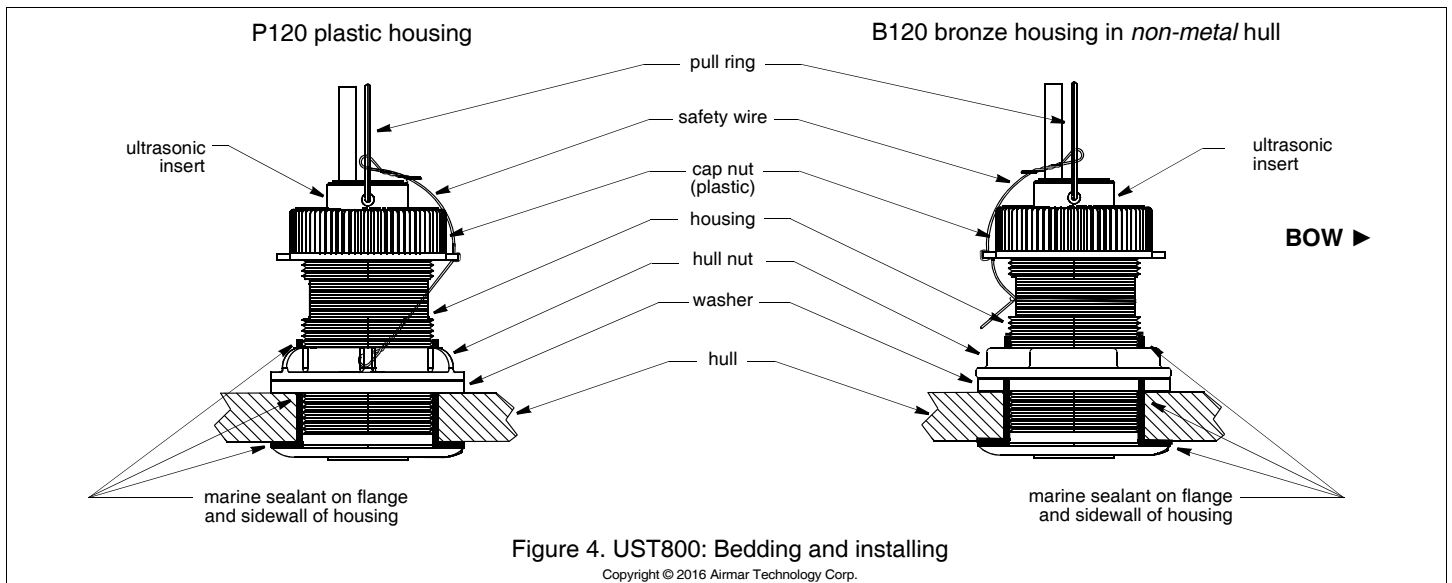

Figure 4. UST800: Bedding and installing
Apply a 2mm (1/16") thick layer of marine sealant around the flange of the housing that contacts the hull and up the sidewalls of the housing (Figure 4 or 5). *The sealant must extend 6mm (1/4") higher than the combined thickness of the hull, washer, and hull nut.* This will ensure there is sealant in the threads to seal the hull and to hold the hull nut securely in place.
1. From outside the hull, push the housing into the mounting hole using a twisting motion to squeeze out excess sealant (Figure 4 or 5). *Align the arrow on the flange of the housing pointing forward toward the bow.* If the sensor is not installed on the centerline, angle the housing slightly toward the centerline to align it with the water flow.
UST800 (Figure 4)
1. Remove the ultrasonic insert from the housing by removing the safety wire from the pull ring and the cap nut. Unscrew the cap nut (Figure 4).
4. Reattach the safety wire to prevent the blanking plug from backing out in the unlikely event that the cap nut fails or is screwed on incorrectly (Figure 4).
2. Remove the ultrasonic insert from the housing (Figure 4).
5. Slide the blanking plug into the housing. Seat it into place with a pushing twisting motion until the key fits into the notch in the housing. **Hand tighten** the cap nut. Do not over tighten. Reattach the safety wire (Figure 4).
9. Reattach the safety wire to prevent the ultrasonic insert/blanking plug from backing out in the unlikely event that the cap nut fails or is screwed on incorrectly (Figure 4).